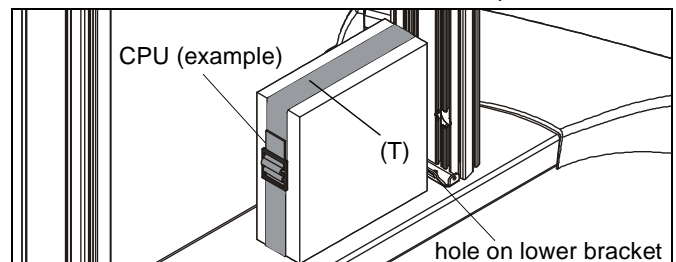

Figure 10
1. Route CPU strap (T) through hole on lower bracket and around CPU to secure CPU to column base. (See Figure 10)